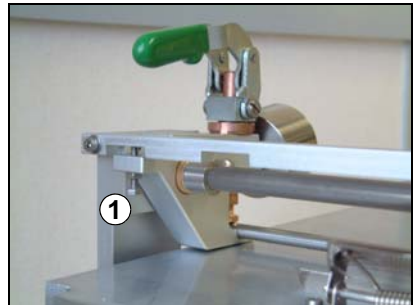

Figure 13. Bar height adjustment screw
Check to ensure the spiral bar coater is touching the surface of the rubber mat. To adjust the height of the spiral bar coater, rotate the two screws (1) at the rear of the carriage (Figure 13).